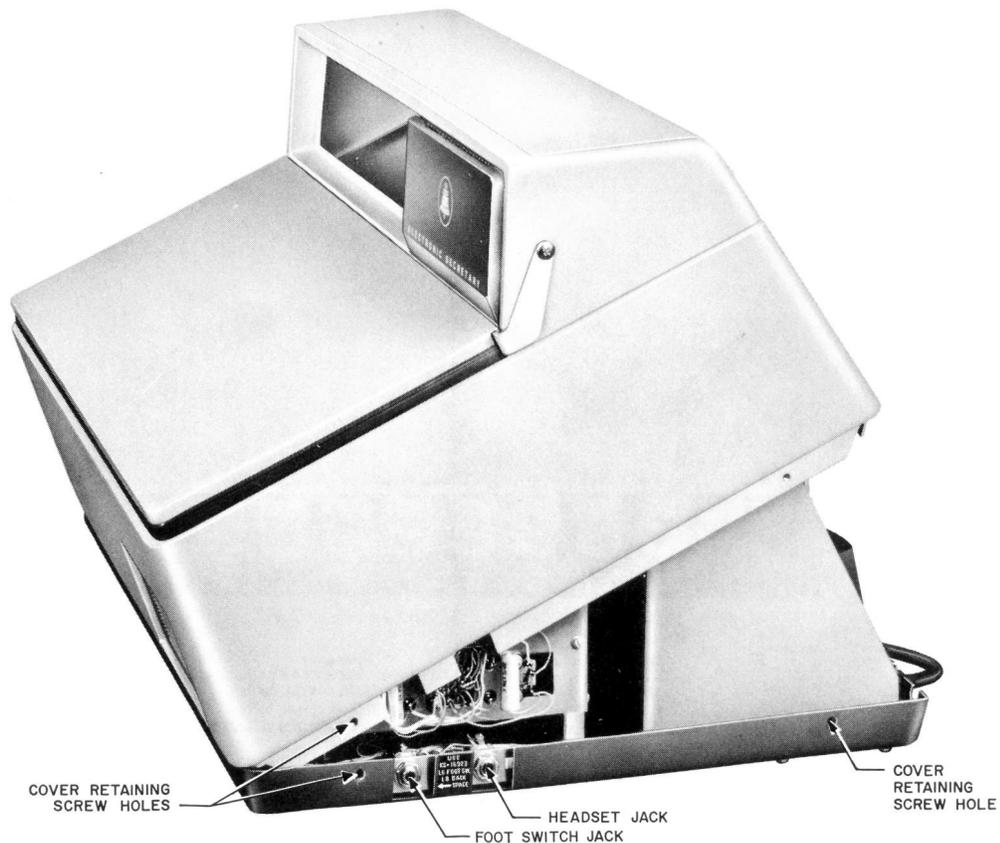

Fig. 1 — KS-16923, List 1, Telephone Answering Set, Cover Raised
2.01 The KS-16923, List 1 telephone answering set, Fig. 1, is designed to operate on 110/125-volt, 60-cycle ac power supply.
4.02 Remove cover of answering set to make connections. Remove screws and lift rear panel out (see Fig. 1 and 3).
- (1) Insert plug of foot switch (Fig. 6) into foot switch jack on telephone answering set (Fig. 1).
- (1) Insert plug of backspace unit (Fig. 7) into foot switch jack of telephone answering set (Fig. 1).
- 4.14** The amount of backspace is readily controlled by means of a potentiometer knob (Fig. 1) up to approximately a dozen words.